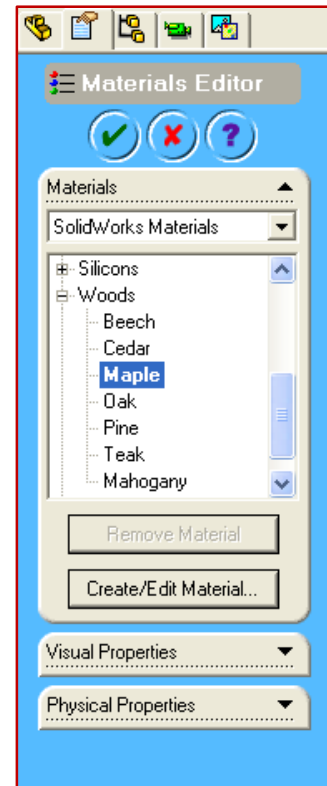

Figure 3.14 – Materials Editor
- ✓ The skateboard deck is made of pine wood. Right-click the **Material** icon in the **FeatureManager design tree** and then click **Edit Material** to get the **Material Editor**. Find the folder for **Woods** and click to show the types of wood available. Select **Pine** and click the check mark to accept. See Figure 3.14.